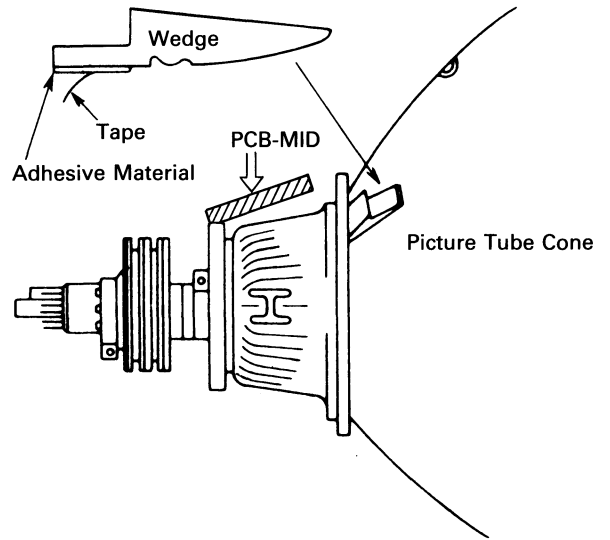

Fig. 12
- 6) After the position of the wedges have been decided, gently turn up the end of the wedge and strip the tape from the rear of the end to expose the adhesive material, then adhere to the picture tube cone. (Fig. 12)